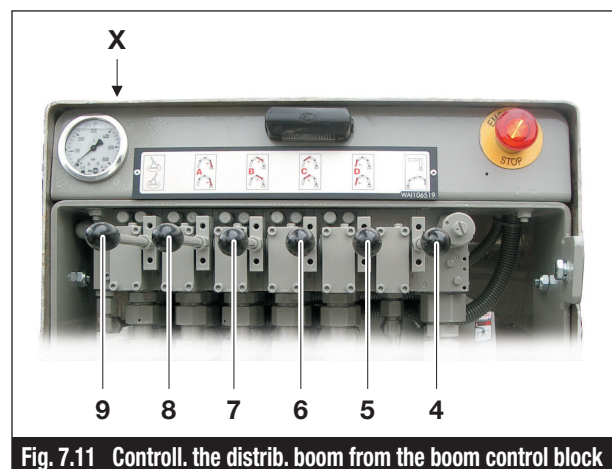

Fig. 7.11 Control. the distrib. boom from the boom control block
If the control system fails, the outriggers can be operated manually from the master control block. To do this a second person must stand at the “Outrigger/Boom” control panel and hold the control lever (Item 4, Fig. 7.11) in the UP position.
- Press control lever boom A (Item 8, Fig. 7.11) and deploy the boom package.
- Press the boom rotation control lever (Item 9, Fig. 7.11) to rotate the boom package into the working position.
- Press control lever B (Item 7, Fig. 7.11) and deploy boom element B at 120° to boom element A.
- Press control lever C (Item 6, Fig. 7.11) and deploy boom element C at 90° to boom element B.
- Press control lever D (Item 5, Fig. 7.11) and deploy boom element D at 90° to boom element B.
- Use the control levers (Items 5 to 9, Fig. 7.11) on the boom control block to move the distributor boom into the desired working position.